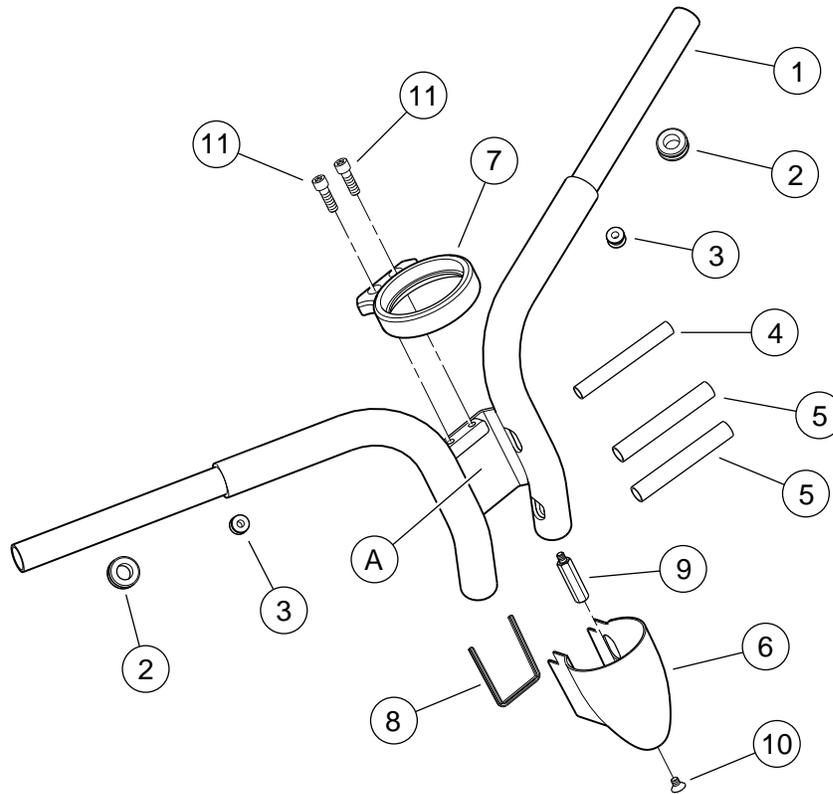

Figure 4. Service Parts
19. See Figure 4. Attach the tachometer mounting bracket (7) to the handlebar tie bracket (A) with the chrome socket-head screws (11) from **this** kit.
22. Mount the tachometer to the tach cover (6) using the standoff (9) and chrome flat head screw (10) from **this** kit.
23. Mount the gasket (8) to the tach cover.